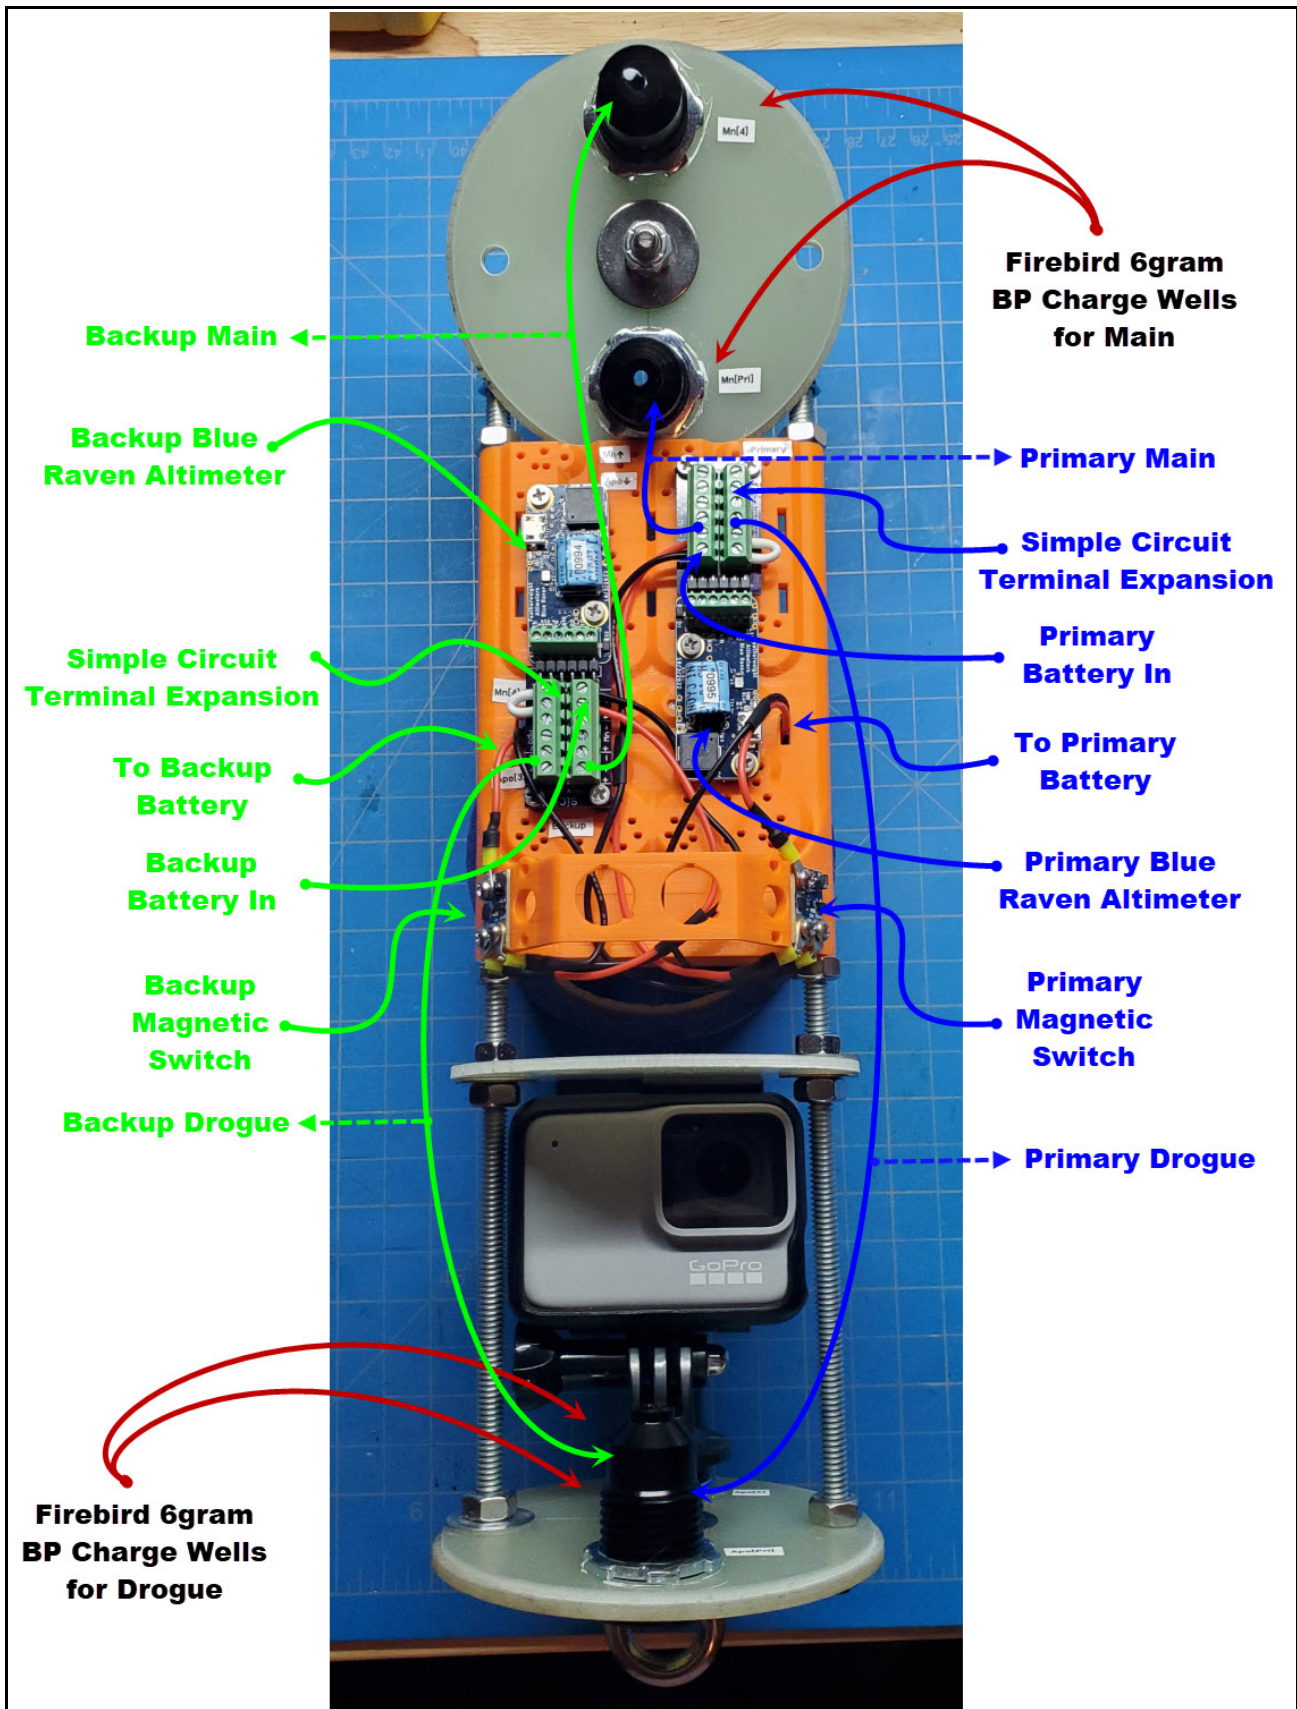

Fig. 7 – Flight Computers Front View
The **avionics bay** is comprised of a G10 fiberglass coupler, switchplate, two bulkheads (avionics bay lids) and one coupler bulk plate that separates the altimeter section from the camera section. A 95mm Additive Aerospace 3D printed sled is secured via two 11" sections of stainless steel (SS) all-thread, SS wing nuts, hex nuts and washers. A pair of Featherweight Blue Raven altimeters are screwed into the sled and wired to Featherweight magnetic switches. The lower steel shoulder eye bolt serves as a connection point for the lower Kevlar harness. A pair of Firebird 3(gram) BP charge wells are installed into each bulkhead for the primary charges and a pair of Firebird 6(gram) BP charge wells are installed into each bulkhead for the backup charges. A steel shoulder eye bolt is also bolted to upper bulkhead to serve as connection point for the upper Kevlar harness. See Fig. 7 for Avionics layout.